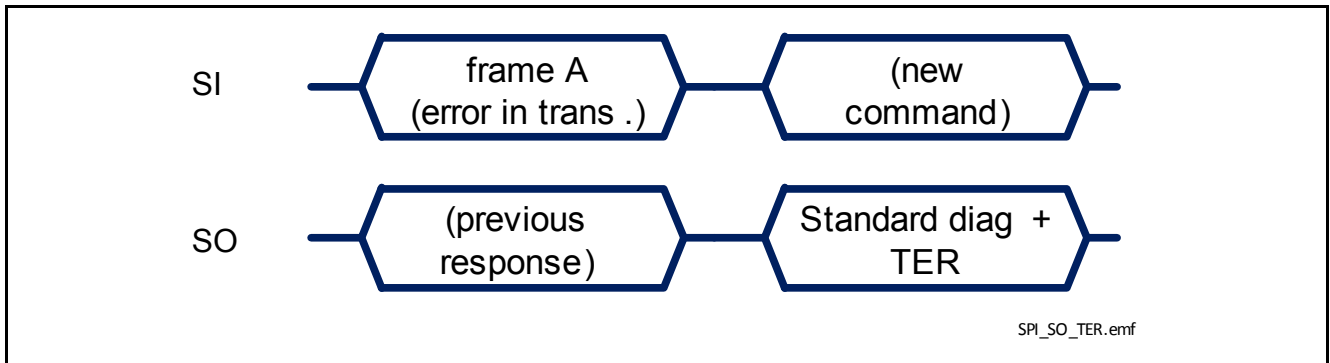

Figure 45 TLD5541-1 response after an error in transmission
- in case an error in transmission happened during the previous frame (for instance, the clock pulses were not multiple of 8 with a minimum of 16 bits), shown in Figure 45